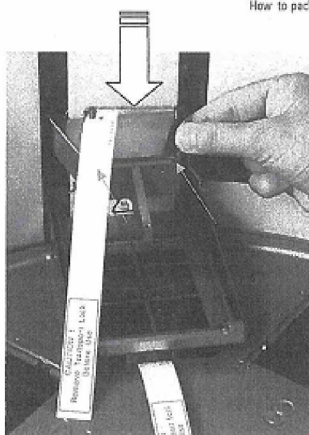
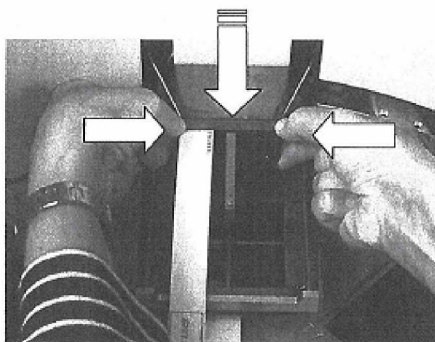

Figure 3-28. Fitting the transport lock of the tip comb holder (A)
Figure 3-29. Fitting the transport lock of the tip comb holder (B)
1. The transport lock of the tip comb holder is refitted according to Figure 3-28 through Figure 3-29. Press the transport lock from both sides and insert the two eccentric pins back into place into their respective holes (Figure 3-28).
2. Press the tip comb holder transport lock ends together with both hands and insert all the way down to lock position (Figure 3-29). Note that the turntable can move slightly although the transport lock is fitted.